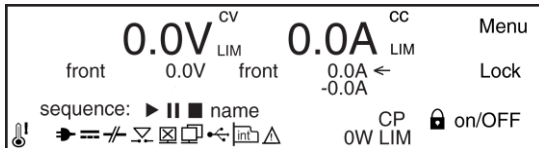

Figure 7.18: Location of icons on the front display.
- An overview of all icons is given in Table 7.2, the location of each icon is shown in Figure 7.18.